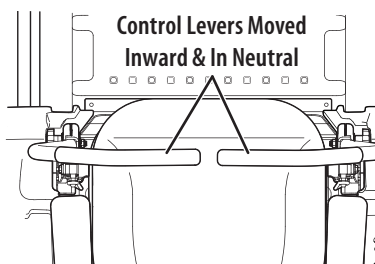

Figure 25
3. Move the RH and LH drive control levers inward in the neutral position (Figure 25).